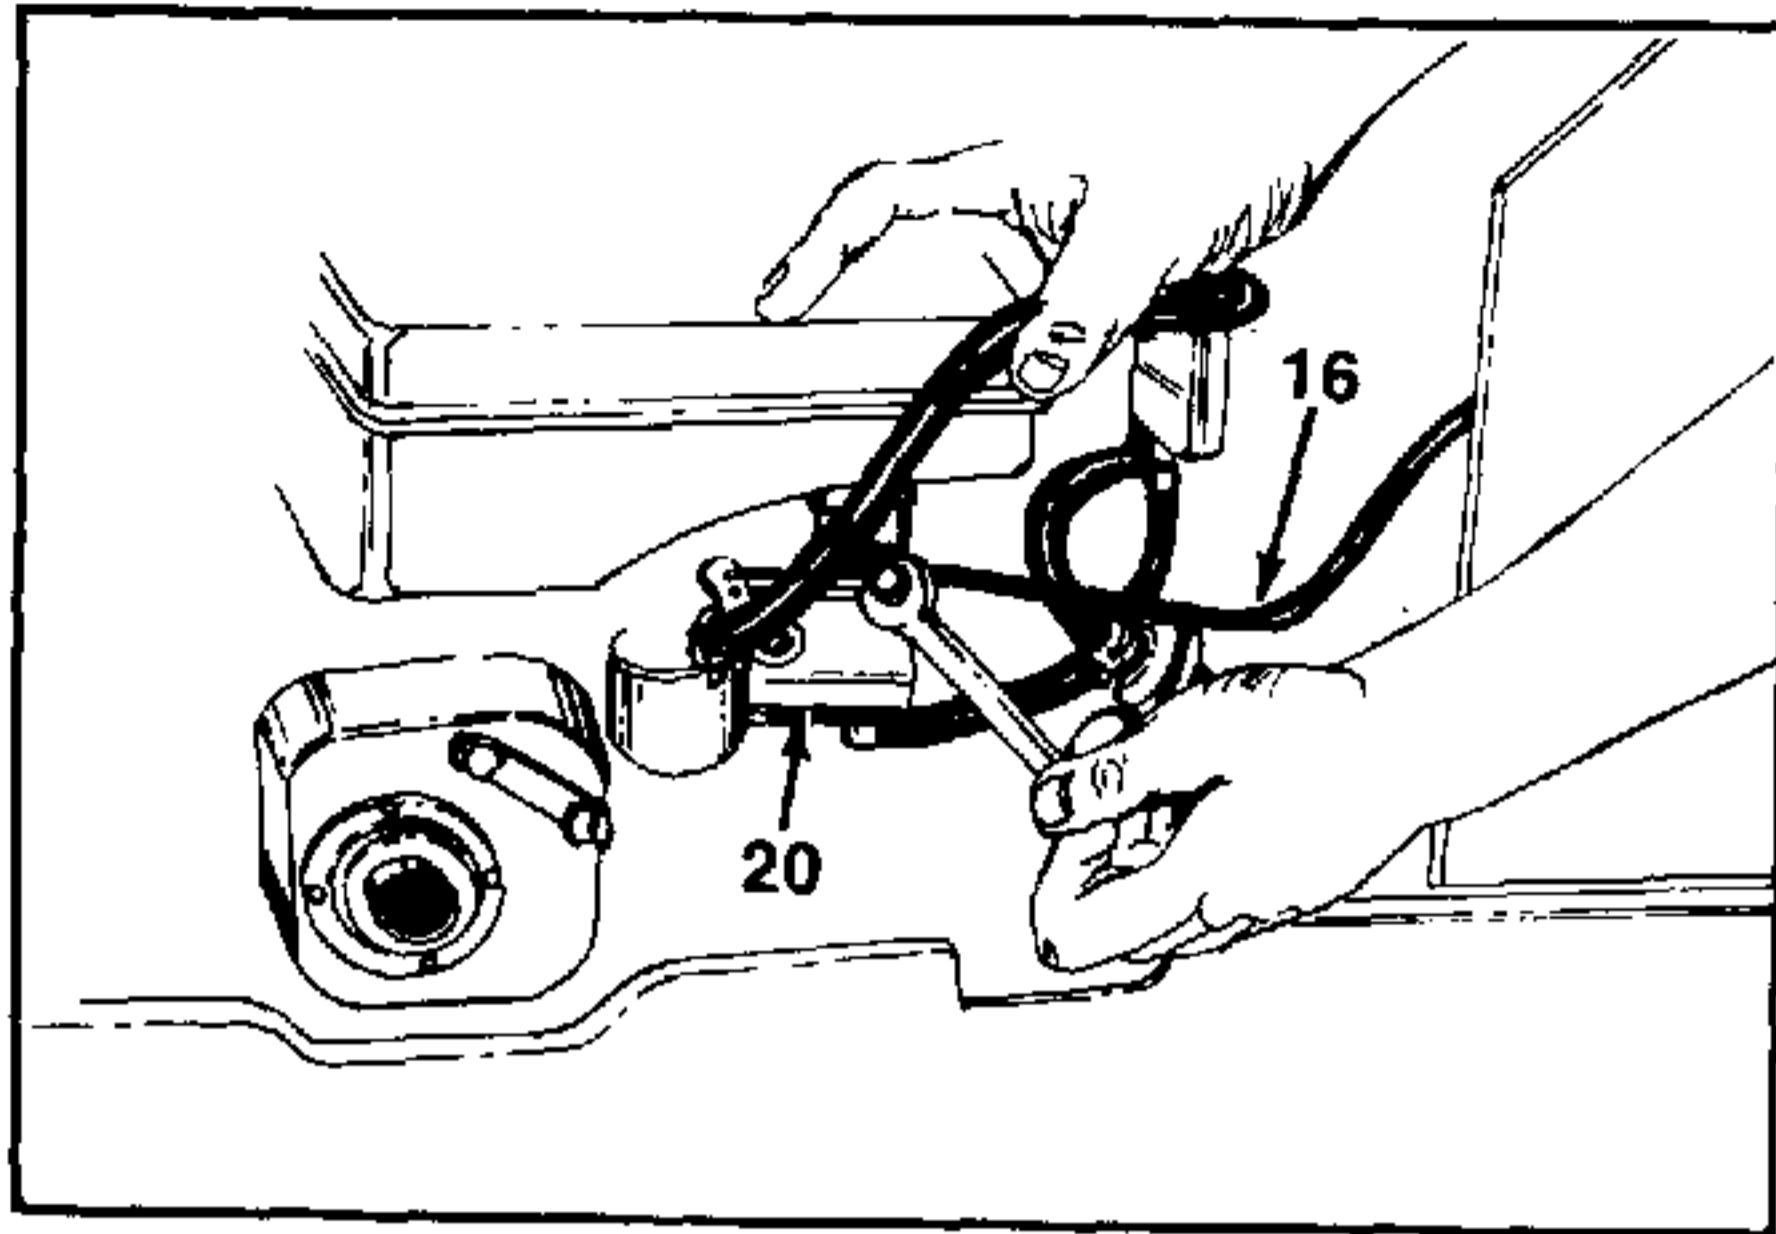

FIGURE 7.
6. Disconnect the choke cable (Ref. 16) at the carburetor (Ref. 20). See figure 7.